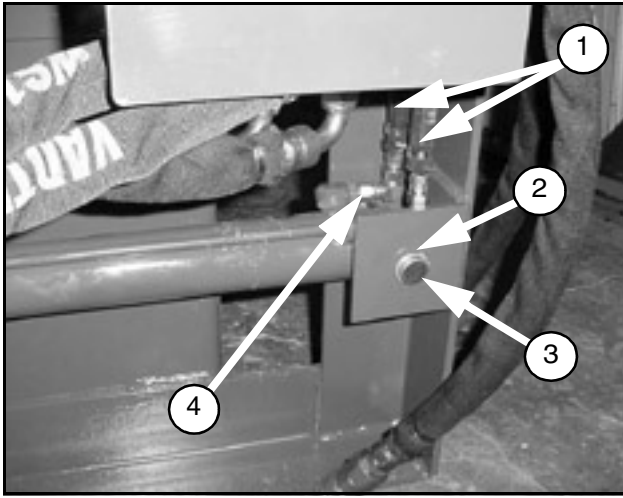

Figure 13.
1. Remove both hoses (1) from the cylinder as shown in Figure 13.
2. Insert the sideshift cylinder pin (4) as shown in Figure 13.
3. Install the snap rings (2) and (3).
4. Assemble the hoses (1).